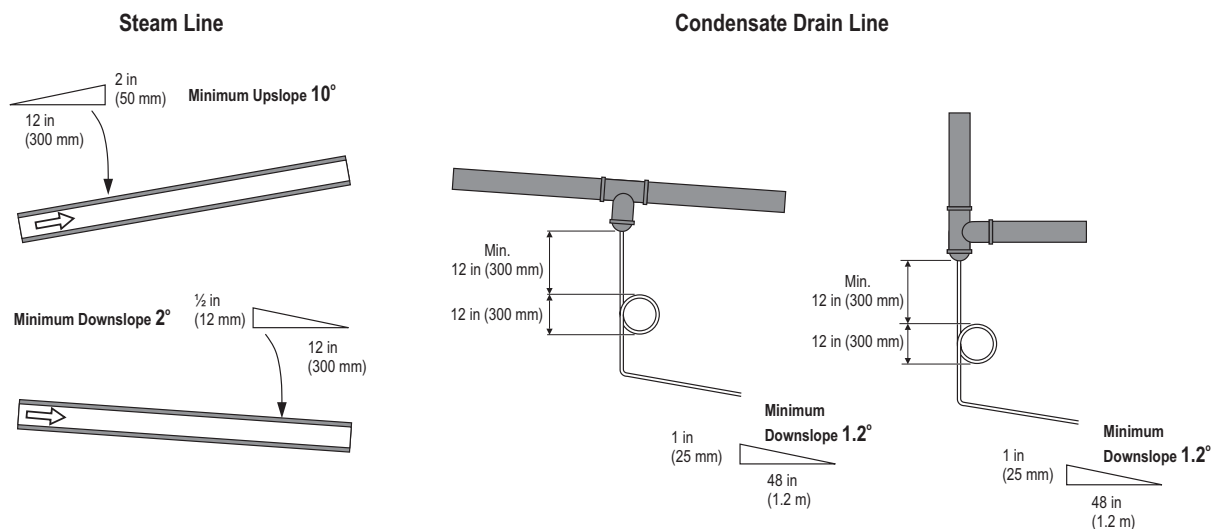

Figure 13: Steam and Condensate Line
- The steam line from the humidifier must lead straight upwards for a minimum of 12 in (300 mm), before continuing on to the steam distribution system – refer to Figure 12 on page 26. The steam line must have a minimum upslope of 10°, or a minimum downslope of 2° to the steam distributor – refer to Figure 13 on page 28.
- Condensate traps must also be installed at all low points and at horizontal-to-vertical transitions in the steam line. The condensate drain lines should always connect to full-size "Tee" connectors in the steam line. Refer to Figure 13 on page 28.